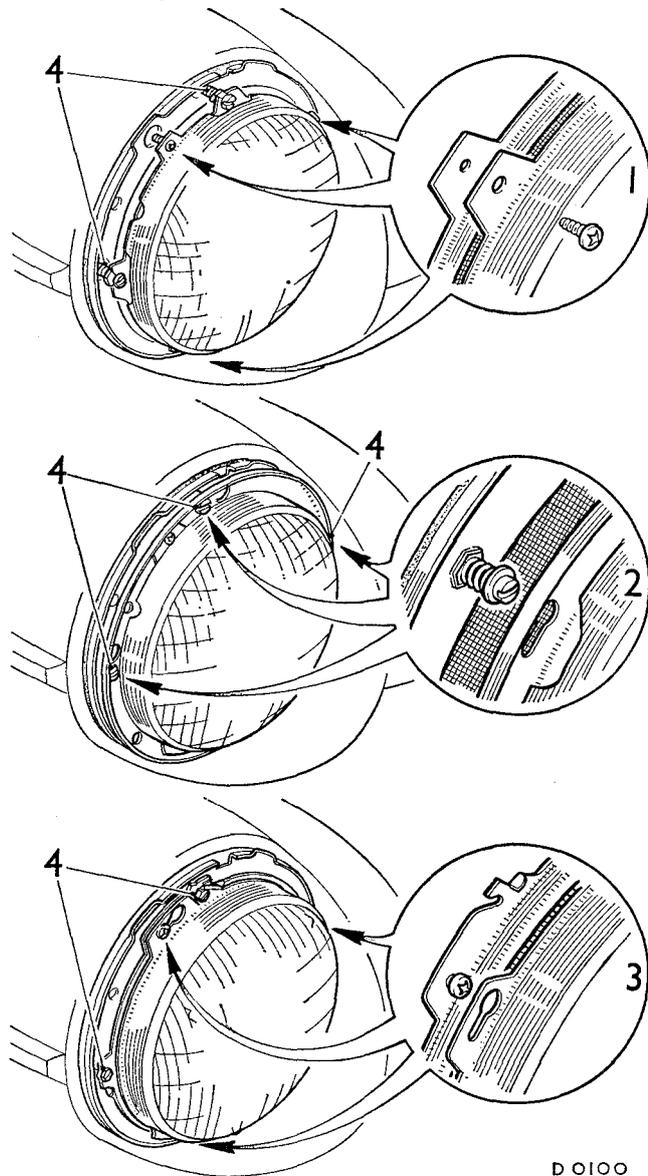
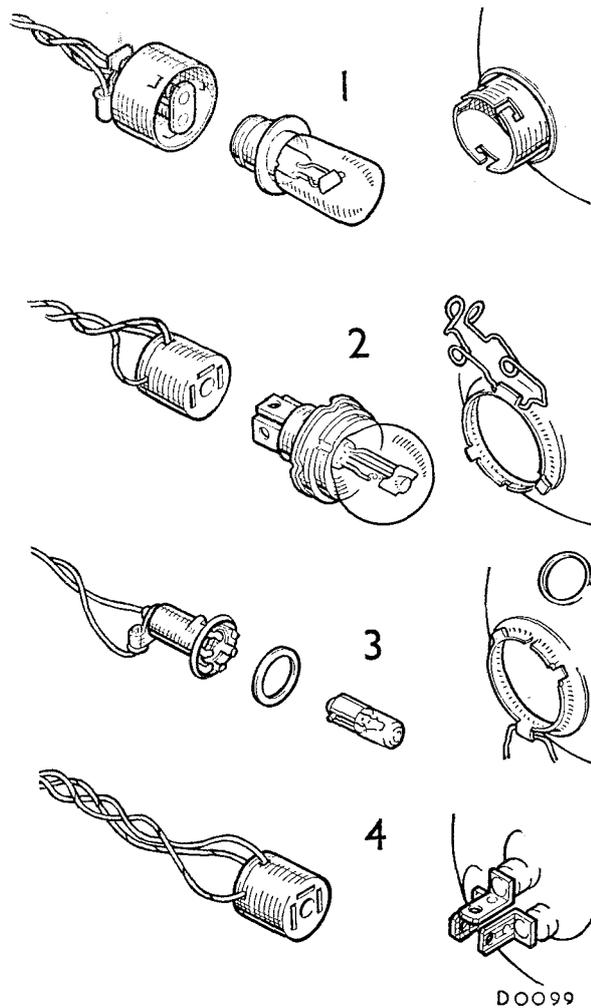

Fig. N.15
Fig. N.16
Variations within the two basic types cater for the local lighting regulations existing in the country for which the car was produced. The method of retaining and adjusting the light unit together with the type of lens and bulb used are subject to territorial variation. Fig. N.15 shows the alternative methods of retaining and adjusting the light unit and Fig. N.16 the different types of bulb fittings used.
Removable-type retaining screw (1) Fig. N.15
- (1) Unscrew the outer rim retaining screw from the bottom of the rim, and withdraw the rim.
- (2) Remove the rubber dust excluder (if fitted).
- (3) Remove the three screws securing the light unit retaining plate and withdraw the light unit from the lamp body.
Combined adjusting/retaining screw (2) Fig. N.15
- (4) Carry out the operations detailed in (1) and (2).
- (5) Press the light unit inwards against the tension of the springs and turn it in an anti-clockwise direction until the heads of the screws can pass through the enlarged ends of the slots in the retaining plate, then withdraw the light unit.
Captive-type retaining screw (3) Fig. N.15
- (6) Carry out the operations detailed in (1) and (2).
- (7) Slacken the three retaining screws and turn the light unit retaining plate in an anti-clockwise direction until the heads of the screws can pass through the enlarged ends of the slots in the retaining plate, then withdraw the retaining plate and light unit.
Cap-type holder (1) Fig. N.16
- (8) Press and turn the cap anti-clockwise, lift off the cap and withdraw the bulb.
- (9) Fit the bulb into the reflector ensuring that the notch in the bulb flange locates on the ridge in the reflector.
- (10) Engage the cap lugs in the reflector slots, press and turn the cap clockwise.
Spring clip type (2) Fig. N.16
- (11) Withdraw the three-pin socket.
- (12) Disengage the spring clip from the reflector lugs, swing the clip up and withdraw the bulb.
- (13) Fit the bulb into the reflector ensuring that the pip on the bulb flange engages the slot in the reflector.
- (14) Swing the spring clip back, ensure that the coils in the clip are resting on the base of the bulb, and engage the legs of the spring clip under the reflector lugs.
Headlamp pilot lamp (3) Fig. N.16
- (15) Withdraw the holder from the reflector.
- (16) Press and turn the bulb anti-clockwise and withdraw the bulb.
- (17) Locate the pins of the bulb in the grooves in the holder, press and turn the bulb clockwise.
- (18) Press the holder into its hole in the reflector.